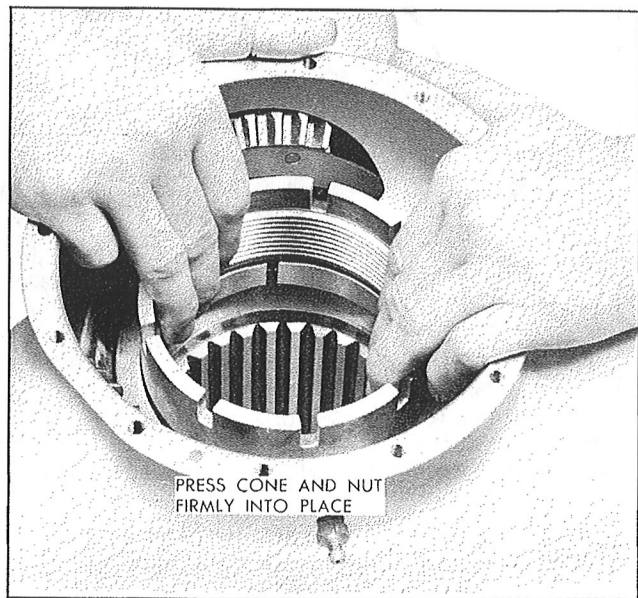

Figure 102—Installation of Shaft Nut and Front Cone
*Step 3.*—Insert the front cone halves and the propeller shaft nut into the hub bore so that the front cone halves bottom on the hub bore taper. See Figure 102.